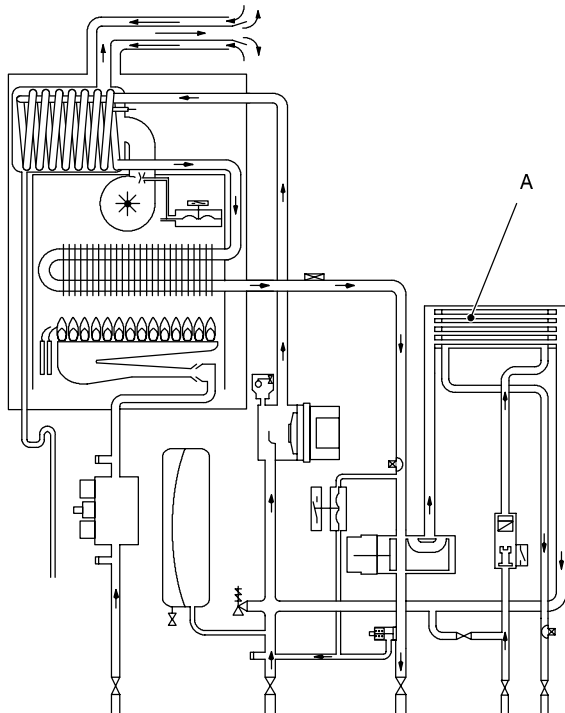
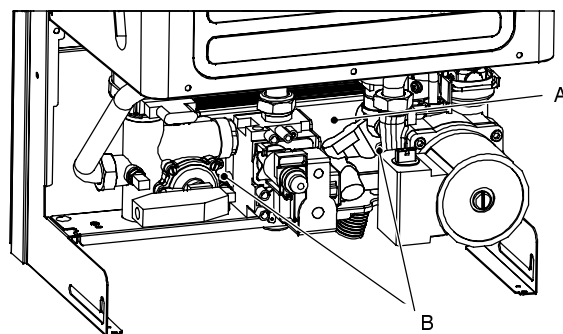

Fig. 14
Fig. 16
The d.h.w. heat exchanger A in Fig. 14 and Fig. 16 allows the instantaneous transfer of heat from the primary hydraulic circuit to the water destined for d.h.w. use.
- 3 Completely unscrew the two Allen key screws B (Fig. 16) which hold the exchanger to the brass groups.